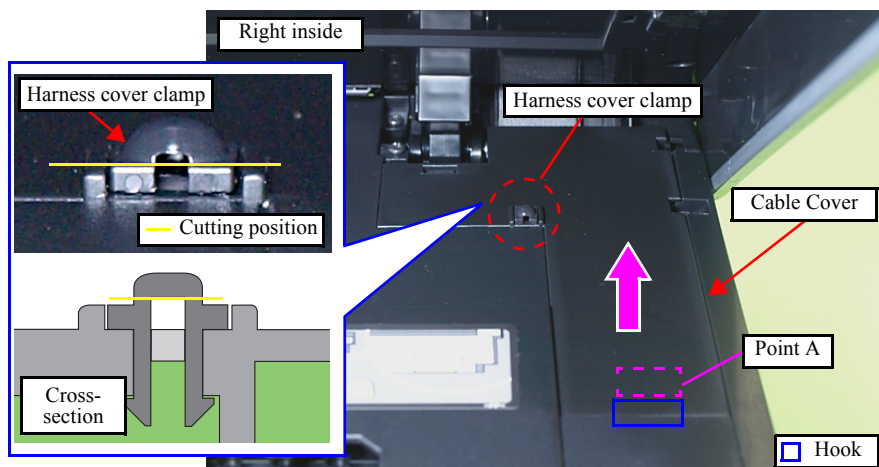

Figure 4-155. Removing the Cable Cover
2. Cut the harness cover clamp with a nipper as shown in Fig. 4-155, and remove the Cable Cover.
- When installing the Cable Cover, secure it with a new Harness Cover Clamp. (See Fig. 4-155.)